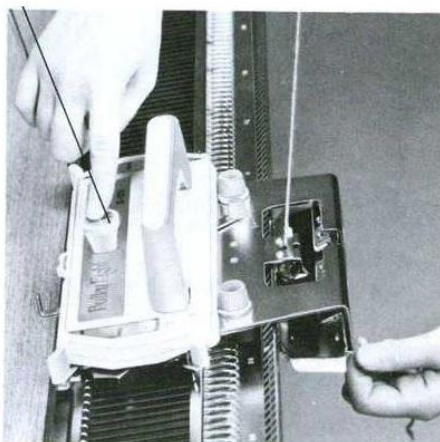
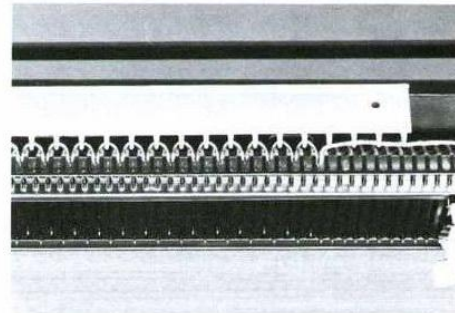

Fig. 28
Fig.35
- (a) With the carriage on the right, bring both shifting cam levers back to "KNIT" position, set both return cam levers at "Position 1" and push downward the tuck knob. (Fig.28)
- (a) With the carriage on the right, push both shifting cam levers back to "KNIT" position, set both return cam levers at "Position 1" and push downward the tuck knob. (Fig.28)
- (b) Bring forward the number of needles required into working position (B).
- (c) With the 1 x 1 selector plate, push back into rest position (A) every alternate needle. (Fig.35)